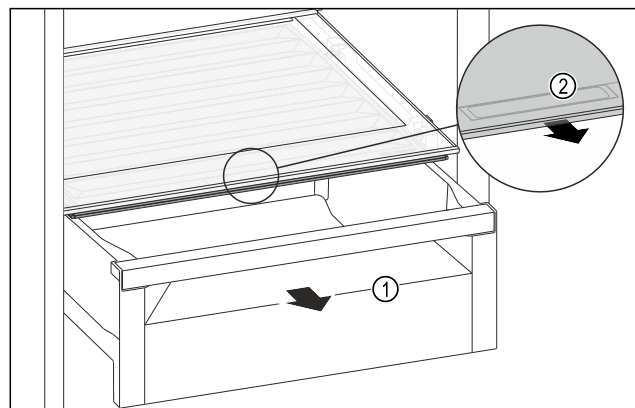

Fig. 200
- ▶ Pull out the drawer Fig. 200 (1).
- ▶ Grasp the recessed grip Fig. 200 (2) on the compartment lid and pull the compartment lid forwards at the same time.